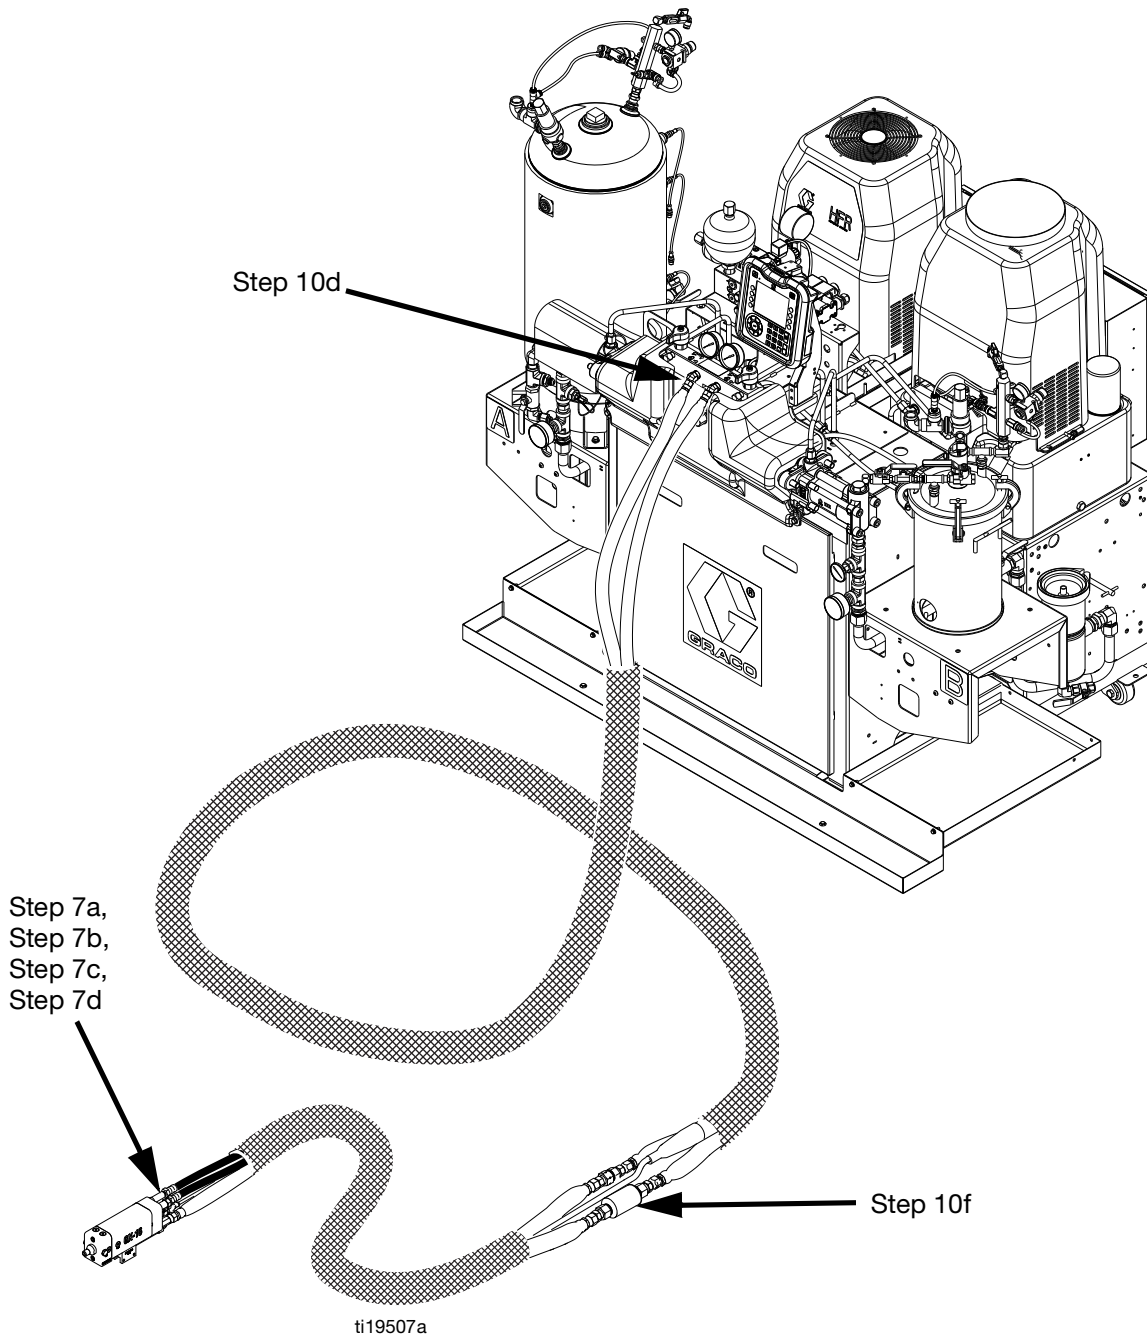
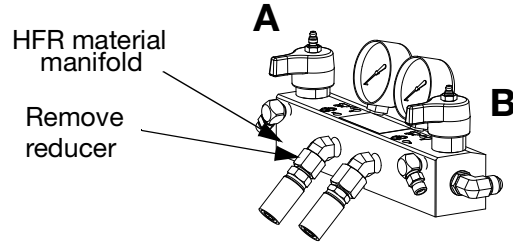

FIG. 15: Material Hose Connections
FIG. 16: Material Manifold
NOTE: Refer to **FIG. 15** on page 32 for visual clarity of the following steps.
- c. Remove reducer fitting from the A (Red) connection of the HFR fluid manifold. Install FTS in the A (Red) material supply line between main hose and whip hose. Ensure the FTS is facing toward the fluid flow of material after installation. See Heated Hose manual for instructions. Refer to **FIG. 15** and **FIG. 16**.
- d. Remove reducer fitting from B (Blue) connection of the HFR fluid manifold (Models 24N573, 24N574 only). Install the provided additional spacers near the location of the FTS for the remaining material lines. Refer to **FIG. 15** and **FIG. 16**.
- f. Assemble the hydraulic hose sections together and place the assembled hose connection near the FTS area. Refer to **FIG. 15**.
- g. Connect A (Red) and B (Blue) hoses to A (Red) and B (Blue) outlets on HFR fluid manifold (FM). Hoses are color coded: solid red for component A, solid blue for component B.